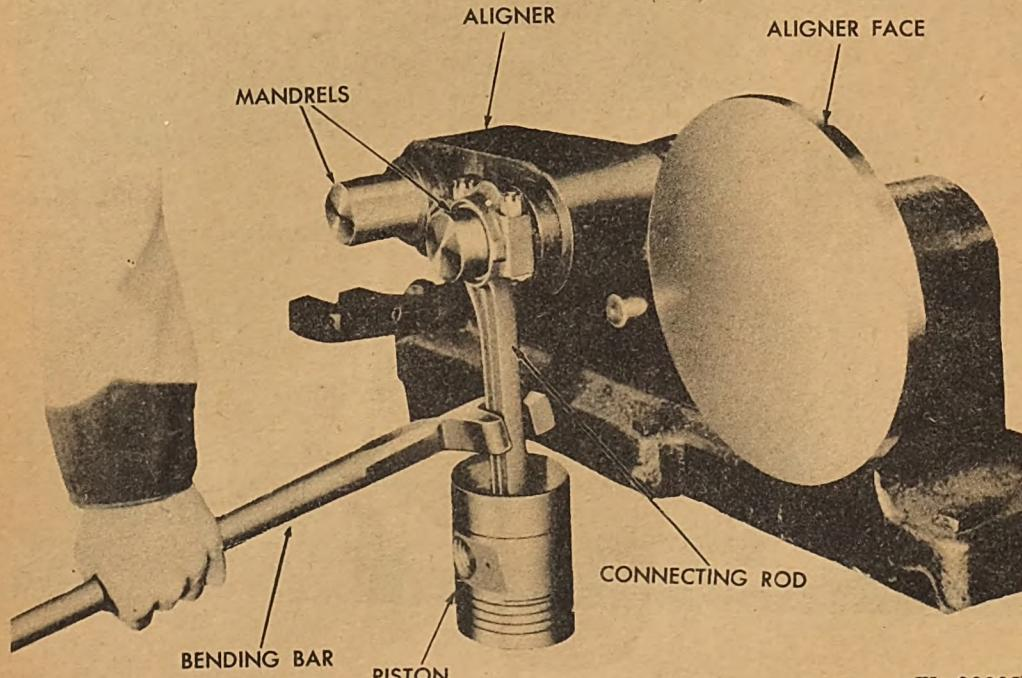

Fig. 153. Straightening Bent Rod.
(3) Check for a bent rod by moving the piston into a parallel position with the connecting rod (see Figure 152), and observe the space between the aligner face and the piston skirt; if the space is not even, the rod is bent. Straighten by carefully bending the rod with a large wrench. (See Figure 153.)